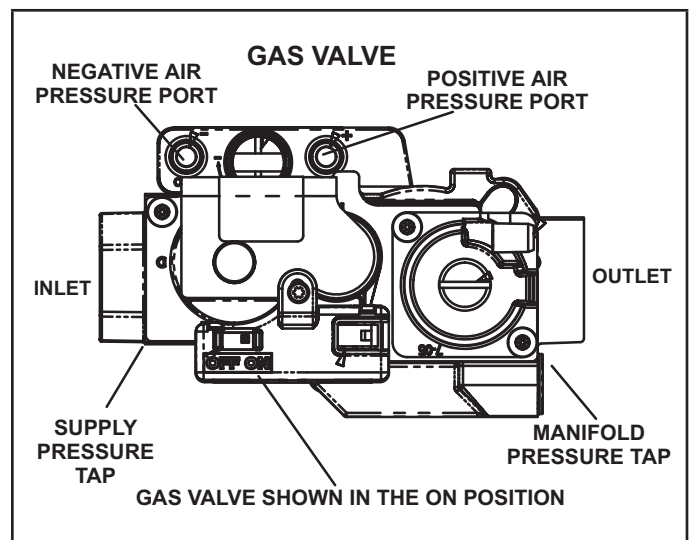

FIGURE 57
Gas Valve Operation (FIGURE 57)
- 6 - Move the gas valve switch to the OFF position. See FIGURE 57.
- 8 - Move gas valve switch to the ON position. See FIGURE 57. Do not force.